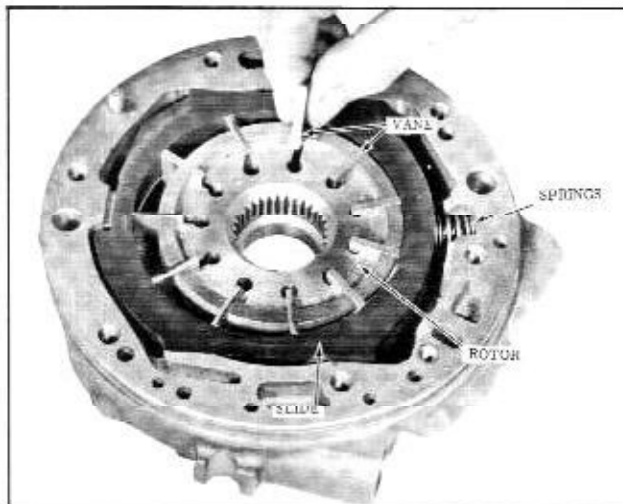

Fig. 3-65 Installing Pump Vanes
14. Install 11 vanes into rotor. (Fig. 3-65)